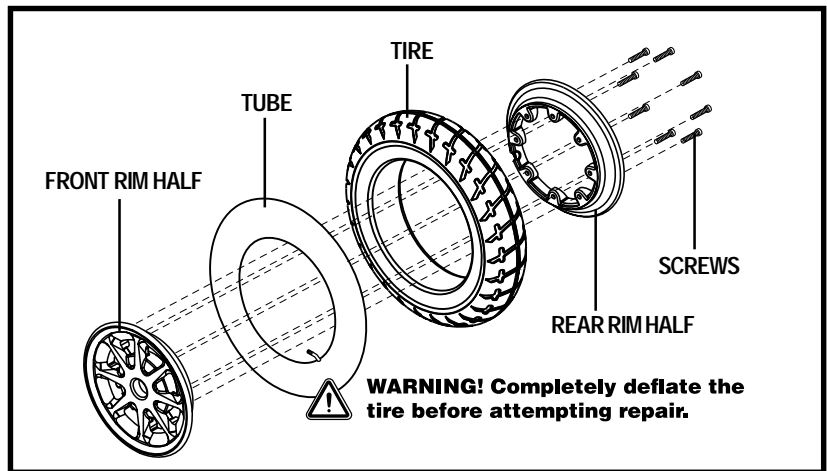

Figure 26. Drive Wheel Disassembled
6. Remove the screws from the rim assembly and separate the front and rear rim. See figure 26.